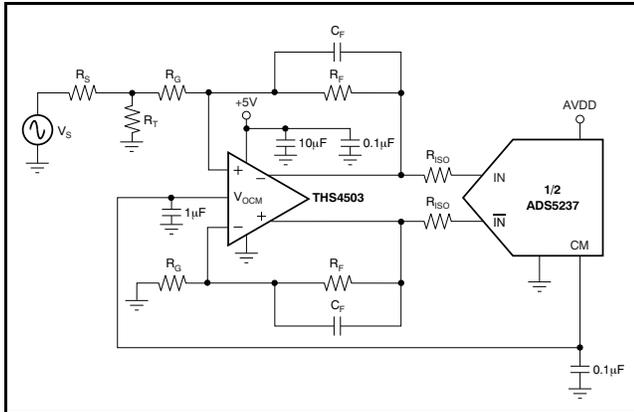

Figure 19. Using the THS4503 with the ADS5237
Applications that have a requirement for DC-coupling a differential amplifier, such as the THS4503, can be used to drive the ADS5237; this design is shown in Figure 19. The THS4503 amplifier easily allows a single-ended-to differential conversion, which reduces component cost.
In addition, the VOCM pin on the THS4503 can be directly tied to the common-mode pin (CM) of the ADS5237 to set up the necessary bias voltage for the converter inputs. In the circuit example shown in Figure 19, the THS4503 is configured for unity gain. If required, a higher gain can easily be achieved as well by adding small capacitors (such as 10pF) in parallel with the feedback resistors to create a low-pass filter. Because the THS4503 is driving a capacitive load, small series resistors in the output ensure stable operation. Further details of this design and the overall operation of the THS4503 may be found in its product data sheet (available for download at [www.ti.com](http://www.ti.com)). In general, differential amplifiers provide a high-performance driver solution for baseband applications, and other differential amplifier models may be selected depending on the system requirements.